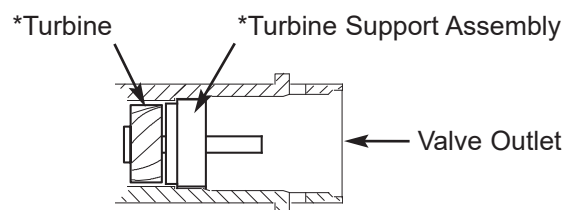

FIG. 8
- If adding a turbine to the system, be sure the turbine and support are in place in the valve outlet, as shown in Figure 8.